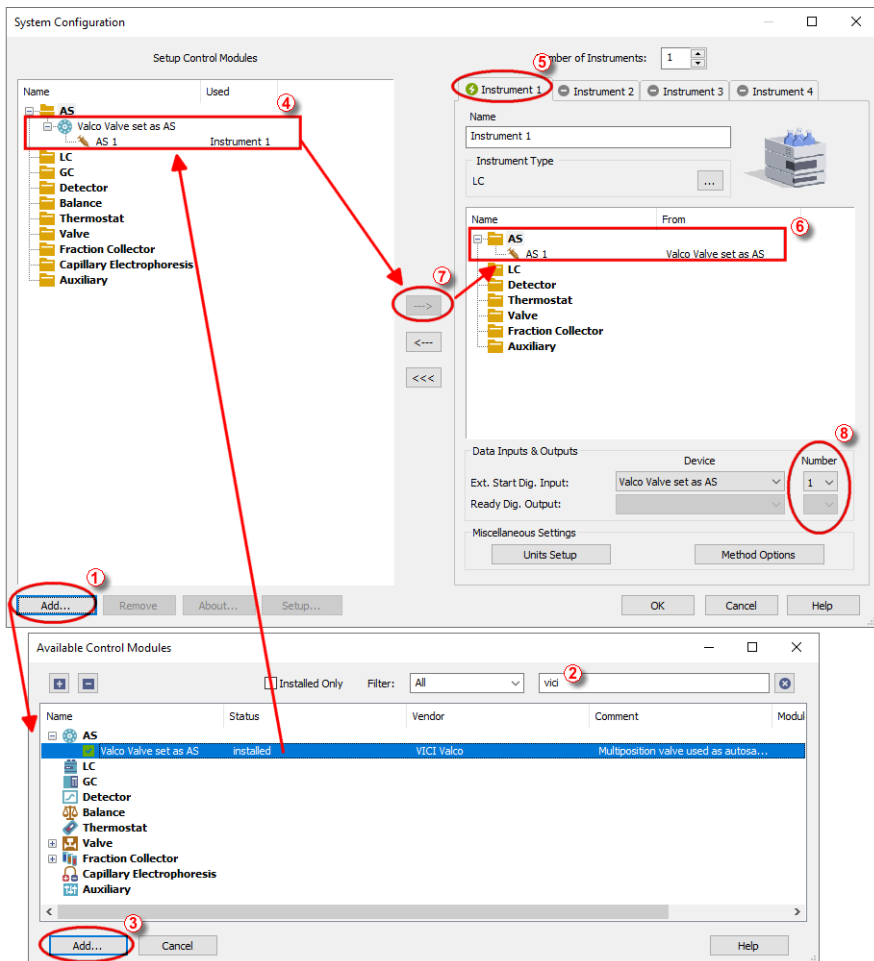

Fig 3: System Configuration
- Press the **Add** button ① (see **Fig 3** on pg 4.) to invoke the **Available Control Modules** dialog.
- You can specify the searching filter ② to simplify the finding of the driver.
- Select the correct item and press the *Add* ③ button.